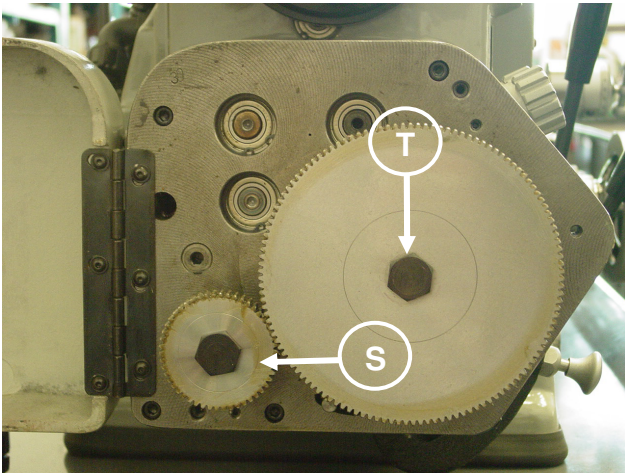
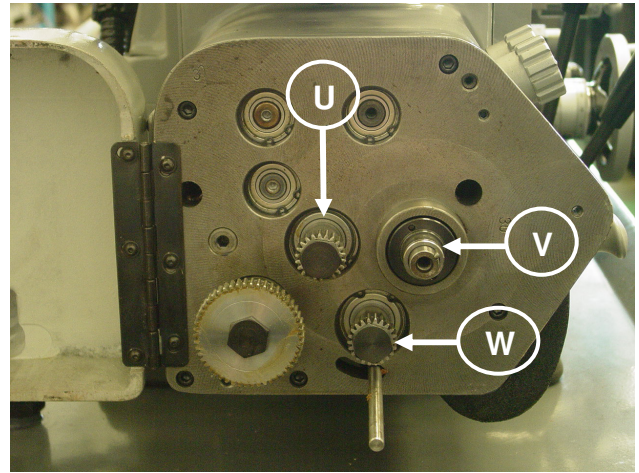
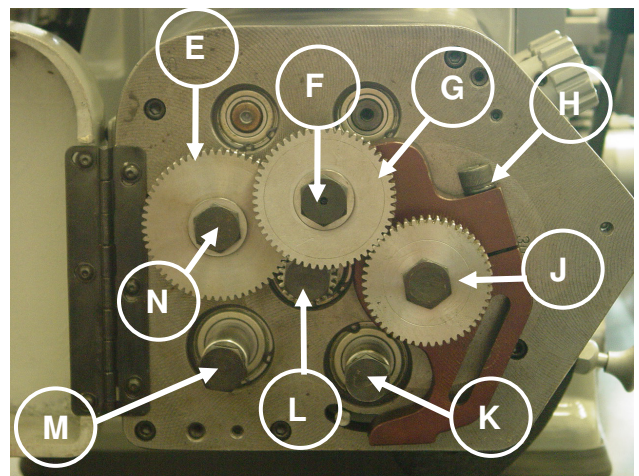

Figure 48-Thread Gearbox
Figure 49-Threading Gearbox
Figure 51-Mounting Change Gear Bracket
4. Loosen knob "S" (Figure 48), open gearbox door and remove 50 tooth gear "S" (Figure 48), and 127 tooth gear "T" (Figure 48). Do not misplace key under 50 tooth gear.
5. If thread chart specifies number of teeth in "First Gear" to be other than 22 teeth, remove gear "U" (Figure 49), and replace with specified gear.
6. Remove tumbler gear "W" (Figure 49).
7. Mount Change gear bracket assembly, Figure 48, on pivot post "V" (Figure 49). Do not tighten bracket bolt "H" (Figure 51), fully.
8. Make certain key is in place and mount "Screw Gear" "J" (Figure 51). Replace bolts "K" (Figure 51) and "M" (Figure 51).
9. Adjust "Second Gear on Stud" "G" (Figure 51), with 0.08"-0.010" backlash between it and "Screw Gear" "J" (Figure 51). Use plastic shim stock to help determine backlash. Tighten bolt "F" (Figure 51).
10. Adjust "Idler Gear" "E" (Figure 51) with 0.003"-0.004" backlash between it and "First Gear on Stud" (behind "Second Gear on Stud" in picture). Tighten bolt "N" (Figure 51).
11. Pivot bracket to obtain 0.003"-0.004" backlash between "First Gear" "L" (Figure 51) and "Idler Gear" "E" (Figure 51). Tighten bracket bolt "H" (Figure 51).
NOTE : (a) 50 tooth gear "S" (Figure 48), and 127 tooth gear "T" (Figure 48) must be remounted (without bracket) to obtain metric thread pitches through gearbox.
(b) When disassembling setup, remount 22 tooth gears "U" (Figure 49) and "W" (Figure 49).